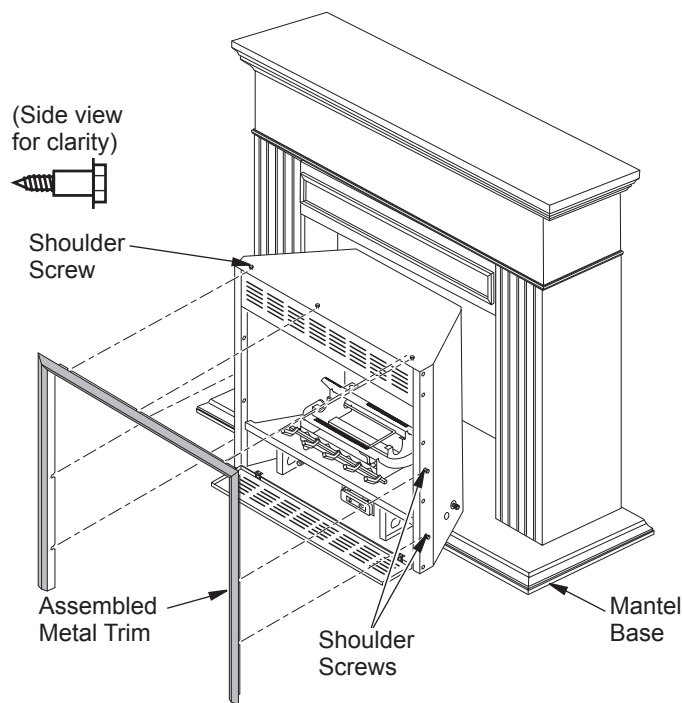

Figure 16 - Fireplace, Metal Trim Assembly, Mantel, and Mantel Base
3. Position fireplace inside mantel (see Figure 16). Carefully position gas lines. **IMPORTANT:** Use caution when positioning fireplace on base. Base may scratch easily.